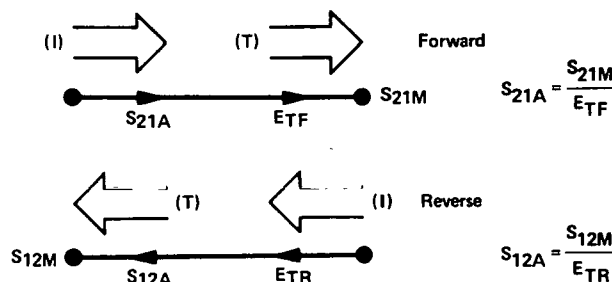

Figure 5-33
The transmission coefficient is measured by taking the ratio of the incident signal (I) and the transmitted signal (T) (Figure 5-33). Ideally, (I) consists only of power delivered by the source, and (T) consists only of power emerging at the test device output.